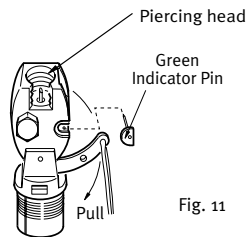

Fig. 11
look at the piercing pin (Fig. 11). If the pin is poking up then this is also an indication that the auto cap mechanism has been fired. **If either of these conditions exist, the auto cap must be re-screwed or the bobbin replaced!**
- Check the manual lever to ensure it is in the up-and-ready position with the green indicator tab properly installed. If the green indicator tab is missing or damaged, replace it. (Fig. 11).